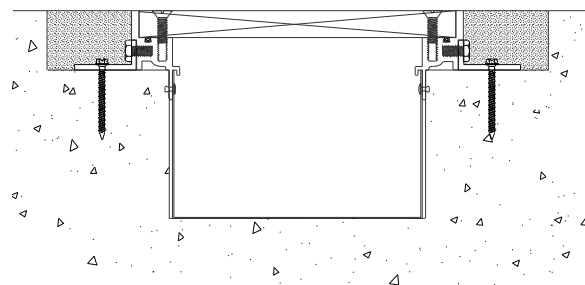

Figure 6
STEP 10. Place grout (by others) continuously between the trench cover system frame and the blockout, see Figure 6. Install the grout in accordance with the grout manufacturer's written instructions.